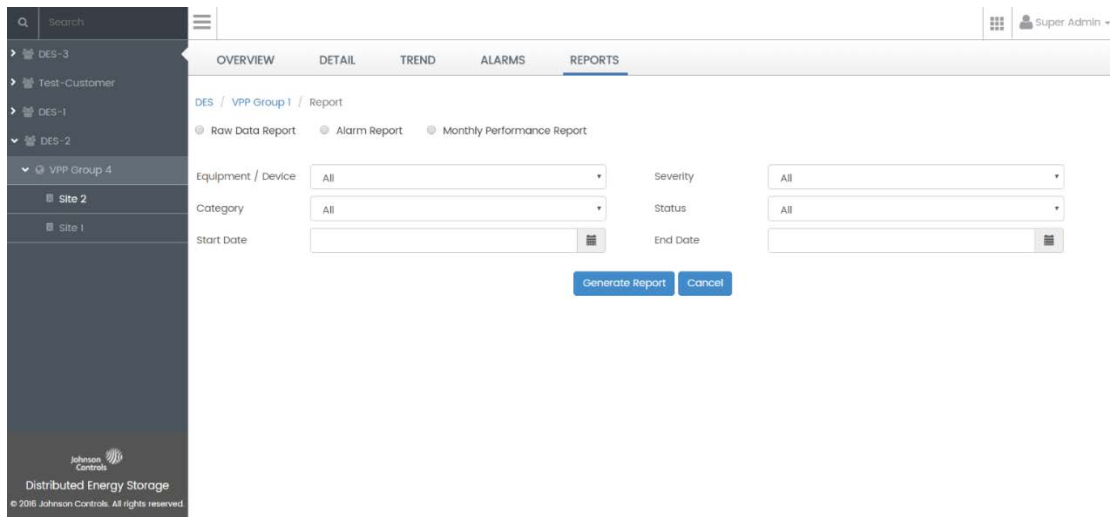

Figure 11: DES Reports Screen
- Trend Screen** – Provides ad hoc charting of any telemetry points. The user is able to select multiple telemetry points and timeframe and plot each on an ad hoc trend. Users can save trend configurations for future use. Figure 11 illustrates the DES Trend screen.